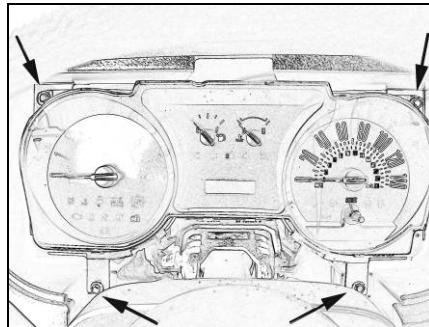

Figure 2
- B. Remove the 4 screws from the top and bottom outer corners of the instrument panel with a 7mm nut driver (see figure 2).